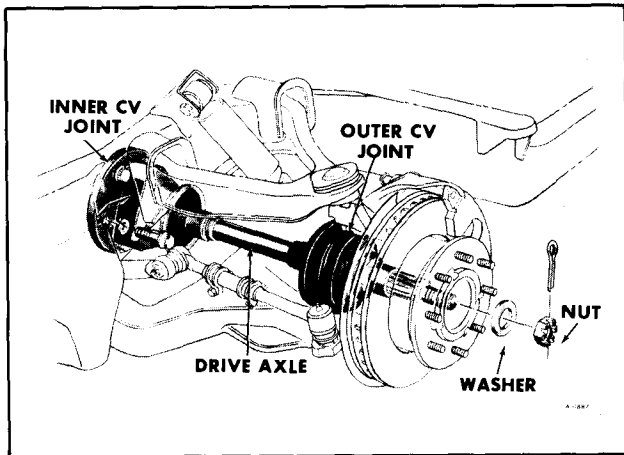

Figure 2—Drive Axle Installed
2. Remove drive axle cotter pin, nut and washer. (figure 2)
5. Remove R.H. output shaft support bolts to engine and final drive. (figure 2).